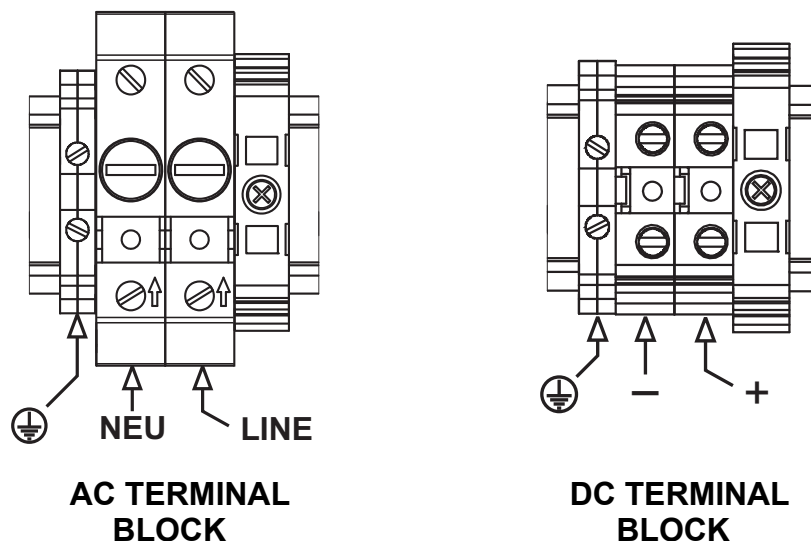

Figure 2-1 AC and DC connection terminal blocks in electronics enclosure.
5. For AC systems, attach the neutral and hot wires to the power terminal block by connecting the neutral wire to the terminal marked "NEU," the hot wire to the terminal marked "LINE," as shown in Figure 2-1. For DC systems, connect the minus wire to the terminal marked "-", and the positive wire to the terminal marked "+," as shown in Figure 2-1.